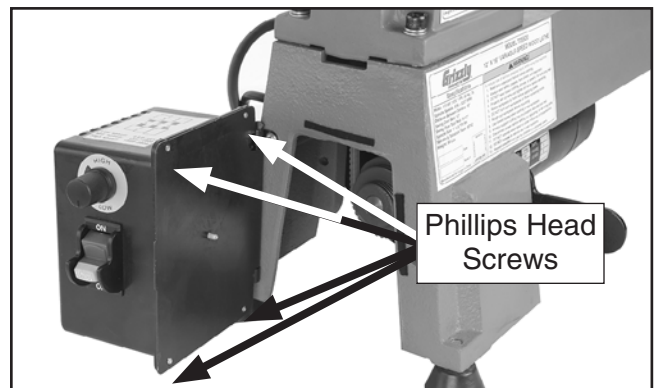

Figure 54. Electrical box screw locations, (side access door open for clarity).
2. Remove (4) Phillips head screws holding electrical box to side access cover (see **Figure 54**).